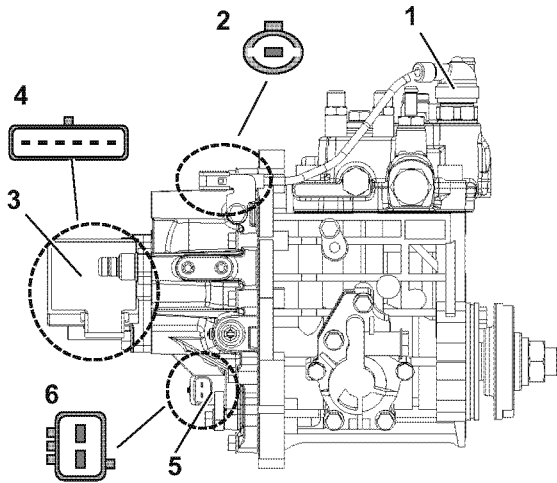

Figure 7-2
- When the cold start device is activated, you may notice a slight increase in the exhaust smoke of the engine during engine warm-up. Electronically controlled engines 3TNV84T-Z, 3TNV88-Z, 4TNV84T-Z, 4TNV94L-Z, 4TNV98-Z, 4TNV98-E, 4TNV98-A, and 4TNV98T-Z use a cold start device (CSD) that consists of a fuel injection pump complete with a solenoid valve (1, **Figure 7-2**).
Electronically controlled engines 3TNV84T-Z, 3TNV88-Z, 4TNV84T-Z, 4TNV94L-Z, 4TNV98-Z, 4TNV98-E, 4TNV98-A, and 4TNV98T-Z are quipped with an electronically controlled governor called “Eco Governor”. Combined with the rack actuator (3, **Figure 7-2**), engine speed sensor (5, **Figure 7-2**), and other parts, the electronically controlled governor communicates with the engine controller (E-ECU), whereby the engine speed and fuel injection rate are controlled.